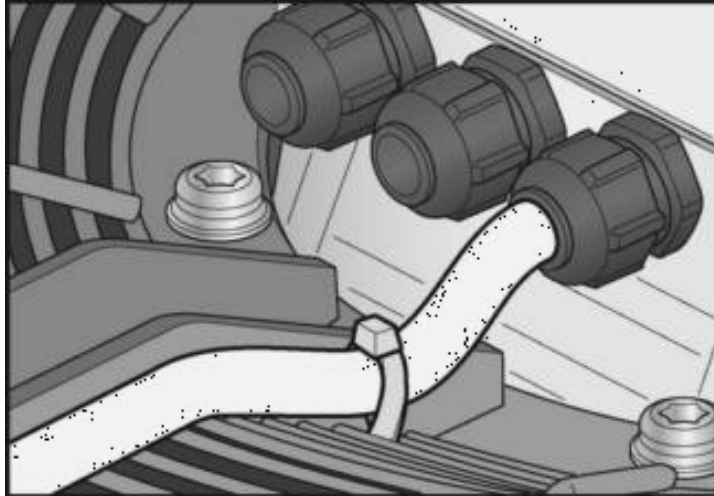

Figure 27. Fan and Motor Assembly Cable Routing
- Using zip cable ties secure cables to the fan and motor support channels. Ensure the cable is routed in a U-shape as shown in **Figure 27**.